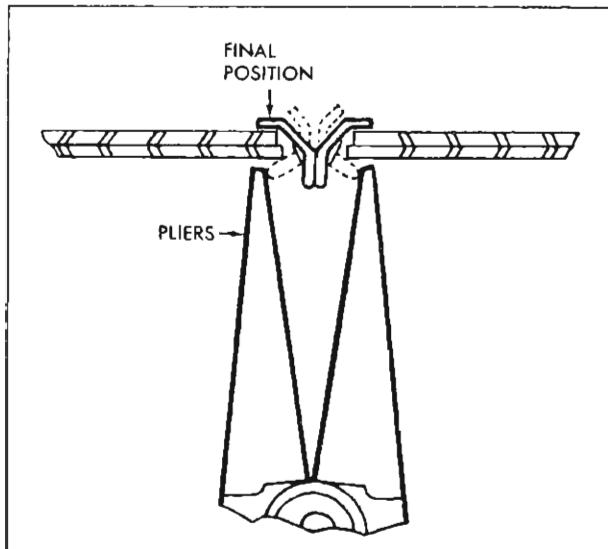

Fig. 132—Special Clip
3. Center face panel may be separated from reinforcements by removal of special clips shown in Figure 132.